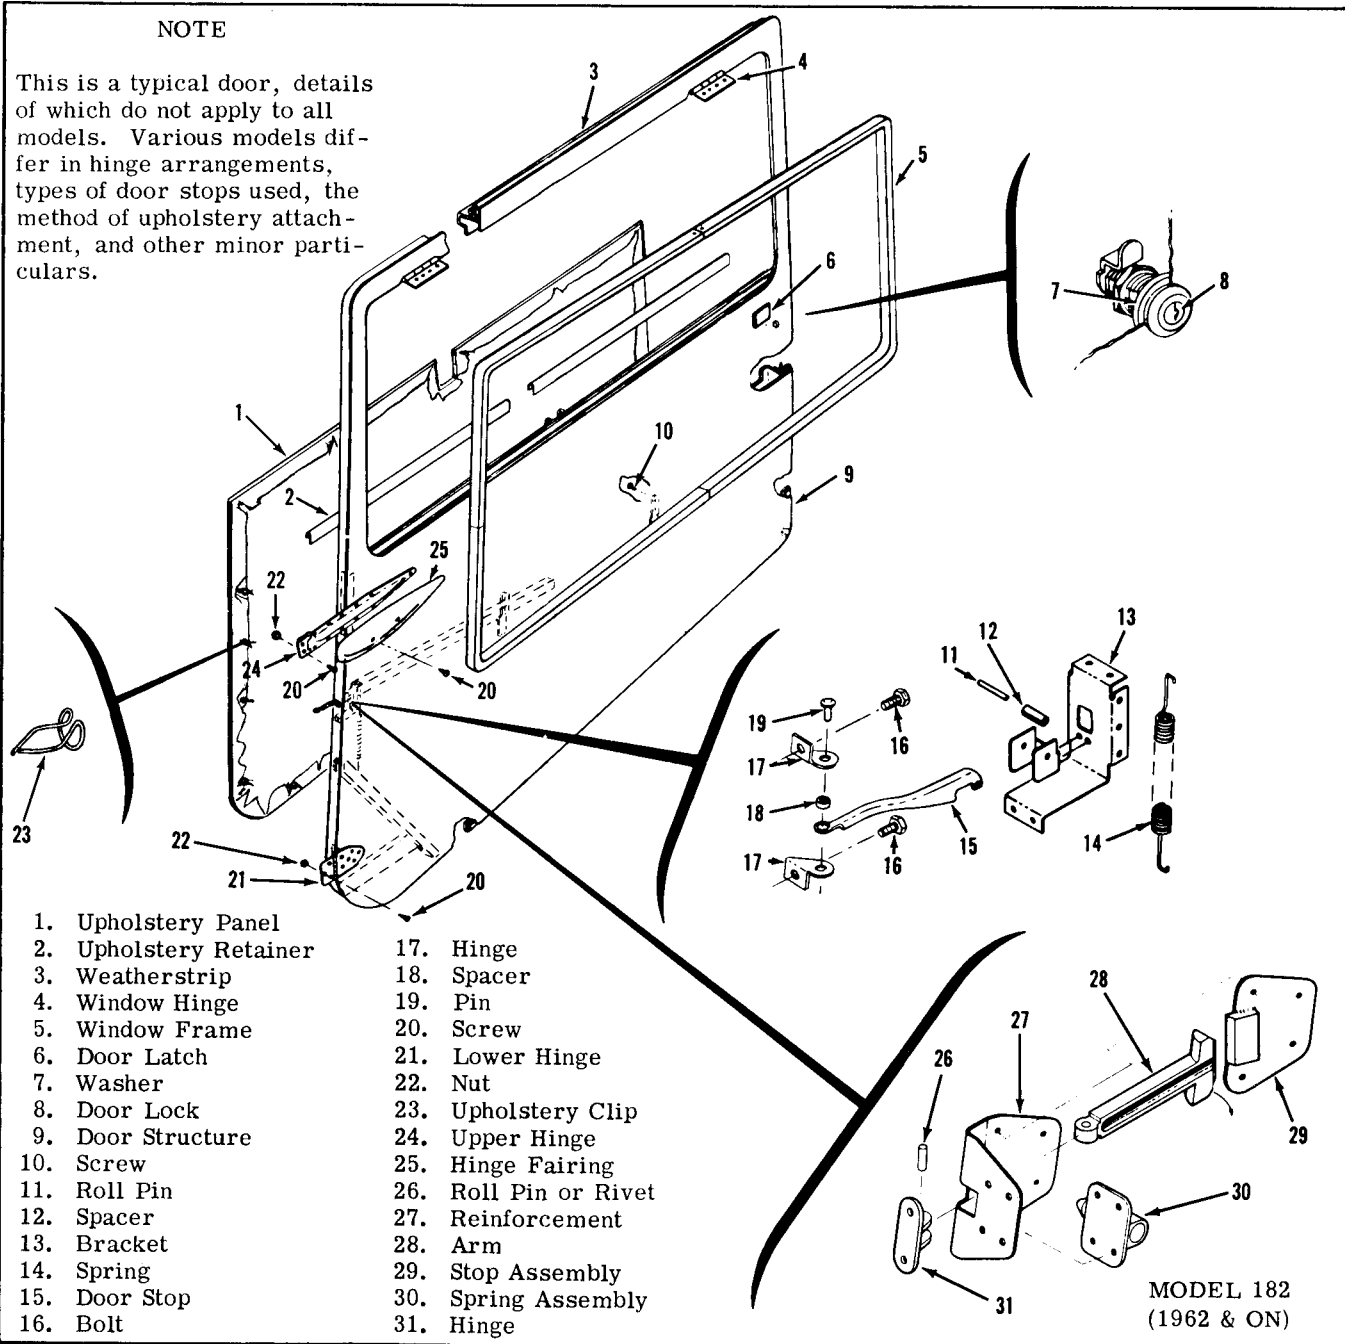

Figure 3-5. Cabin Doors
**3-12. CABIN DOORS.** (See figure 3-5.)
**3-13. REMOVAL AND REPLACEMENT** of cabin doors is effected by removing the screws which attach the hinges. If the type door stop illustrated in figure 3-5 is used, it must also be disconnected.
Some models have removable hinge pins securing the door hinges to facilitate door removal. The door latch and door handles may be replaced, using figures 3-5 and 3-6 as a guide. When fitting a new door, some trimming of the door skin at the edges may be necessary to achieve a good fit